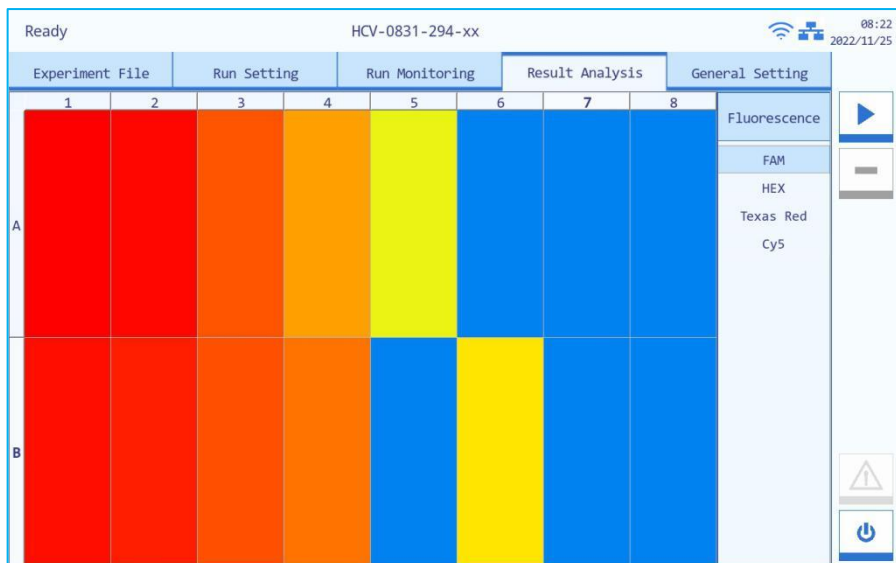

Figure F-4.1 Run Monitoring Diagram - Fluorescence Heat Map
- **Heat Map:** The result analysis interface displays the fluorescence heat map of the current experiment by default. Users can select a dye in the right **Fluorescence** option column to view the corresponding fluorescence heat map, as shown in figure F-4.1.